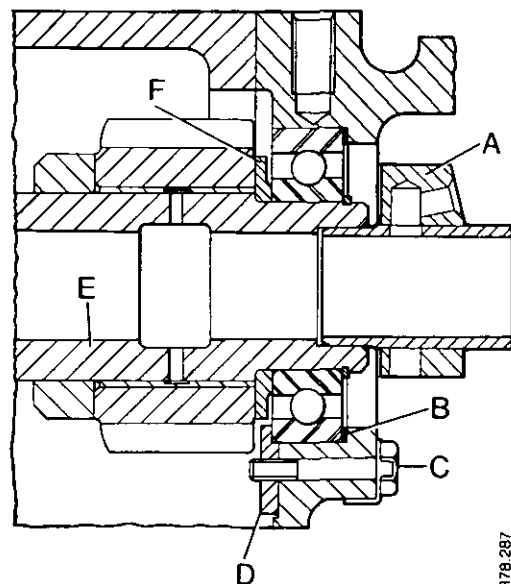

FIGURE 80. TOP SHAFT REAR END
16. Remove the lubrication muff A Figure 80 from the rear of the topshaft.